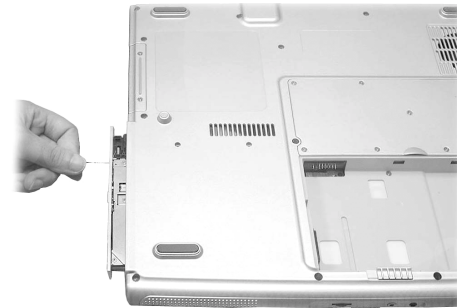

Figure 2-13 Remove the CD/DVD-ROM drive
3. Insert a small rod, such as a straightened paper clip, into CD/DVD-ROM drive's manual eject hole and push firmly to release the tray. Then gently pull out the CD/DVD-ROM drive by holding the tray that pops out. (Figure 2-13)